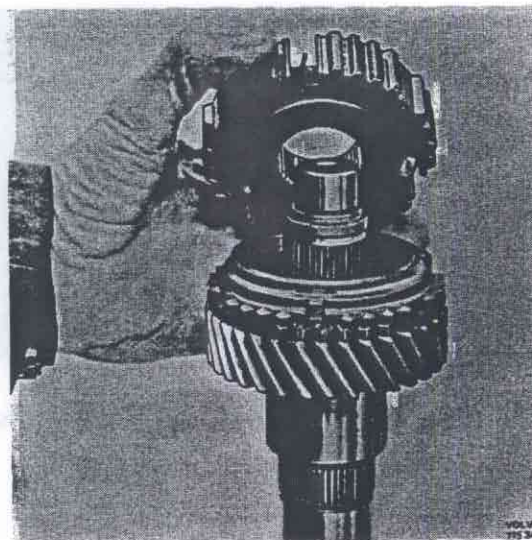

Fig. 43-81. Installing synchronizing hub
2. Fit 3rd gear and the synchronizing cone. Place the spring on the interlock bodies in the synchronizing hub. Fit the hub, Fig. 43-81.